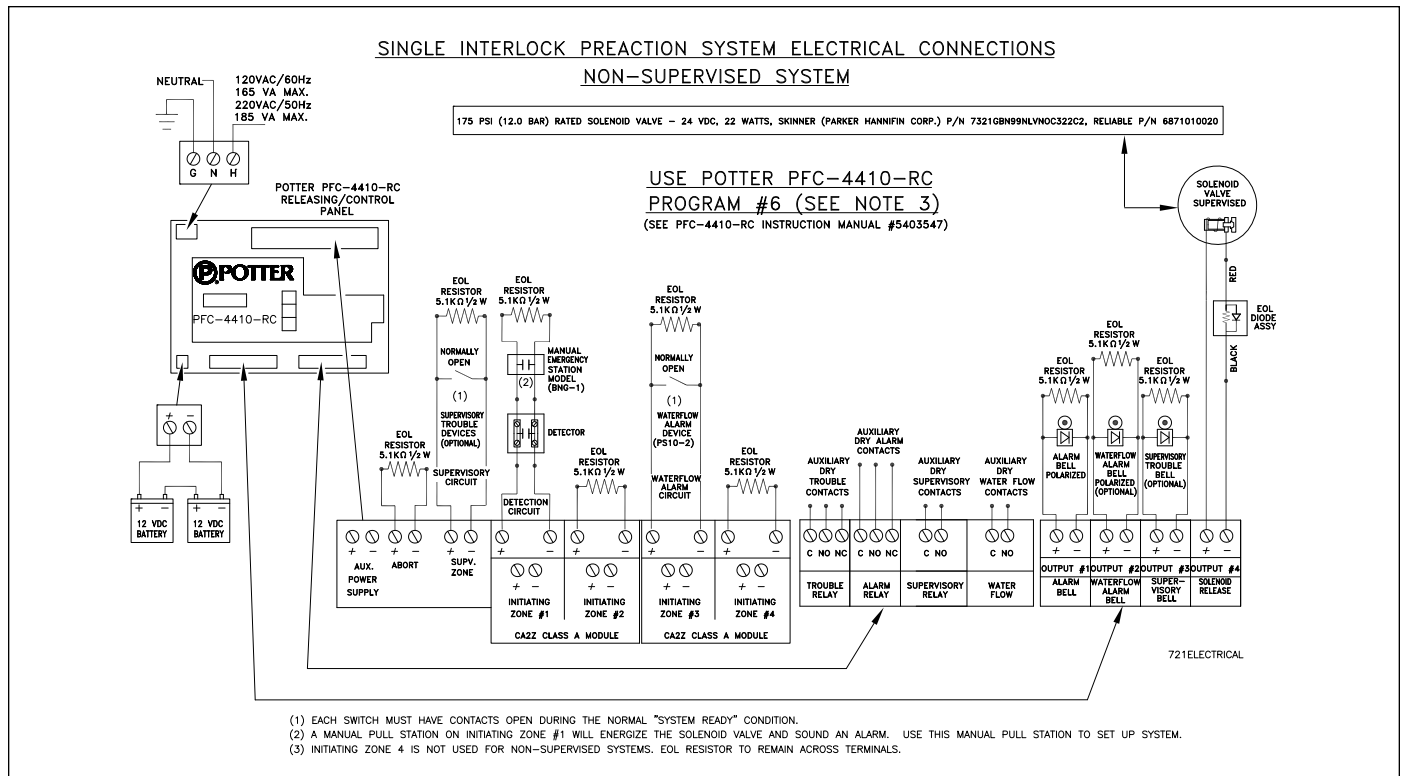

Figure 1
All releasing, alarm and detection devices in the Single Interlock System can be supervised by the Potter PFC-4410-G3 Releasing/Control Panel. Typical connection of these devices is shown in Fig. 1.
2. Make all electrical connections in accordance with Fig. 1.